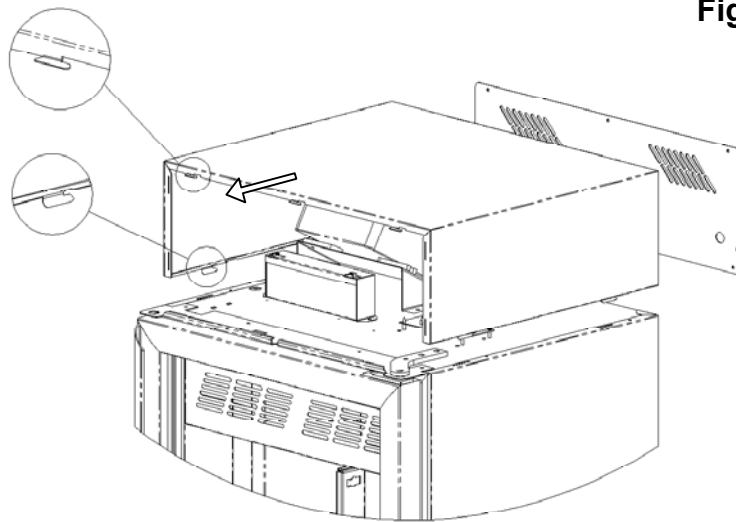

Fig.18
**Phase 3** To remove the top cover, unscrew, using a cross screwdriver, the fixing screws of the rear-side guard and push the top cover frontward until its complete unblocking from the fixing hooks (Fig.18).